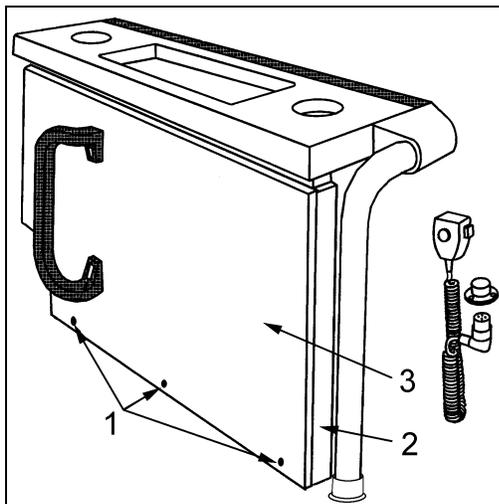

FIGURE 1
2. Remove the decorative caps and unscrew the lower modesty panel fixing screws (item ① figure 1).
3. Remove the plastic molded back panel (item ② figure 1).